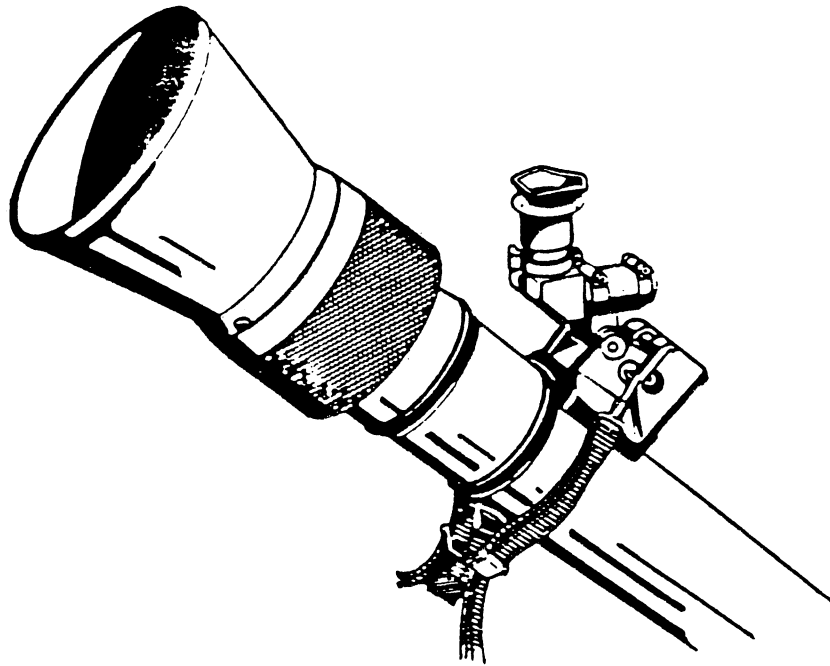

Fig 2-8. Attaching the M45 boresight.
- a. Attach the M45 boresight to the barrel below and touching the upper stop band (fig 2-8).
- a. Attach the M45 boresight to the barrel below and touching the upper stop band as shown in figure 2-8.